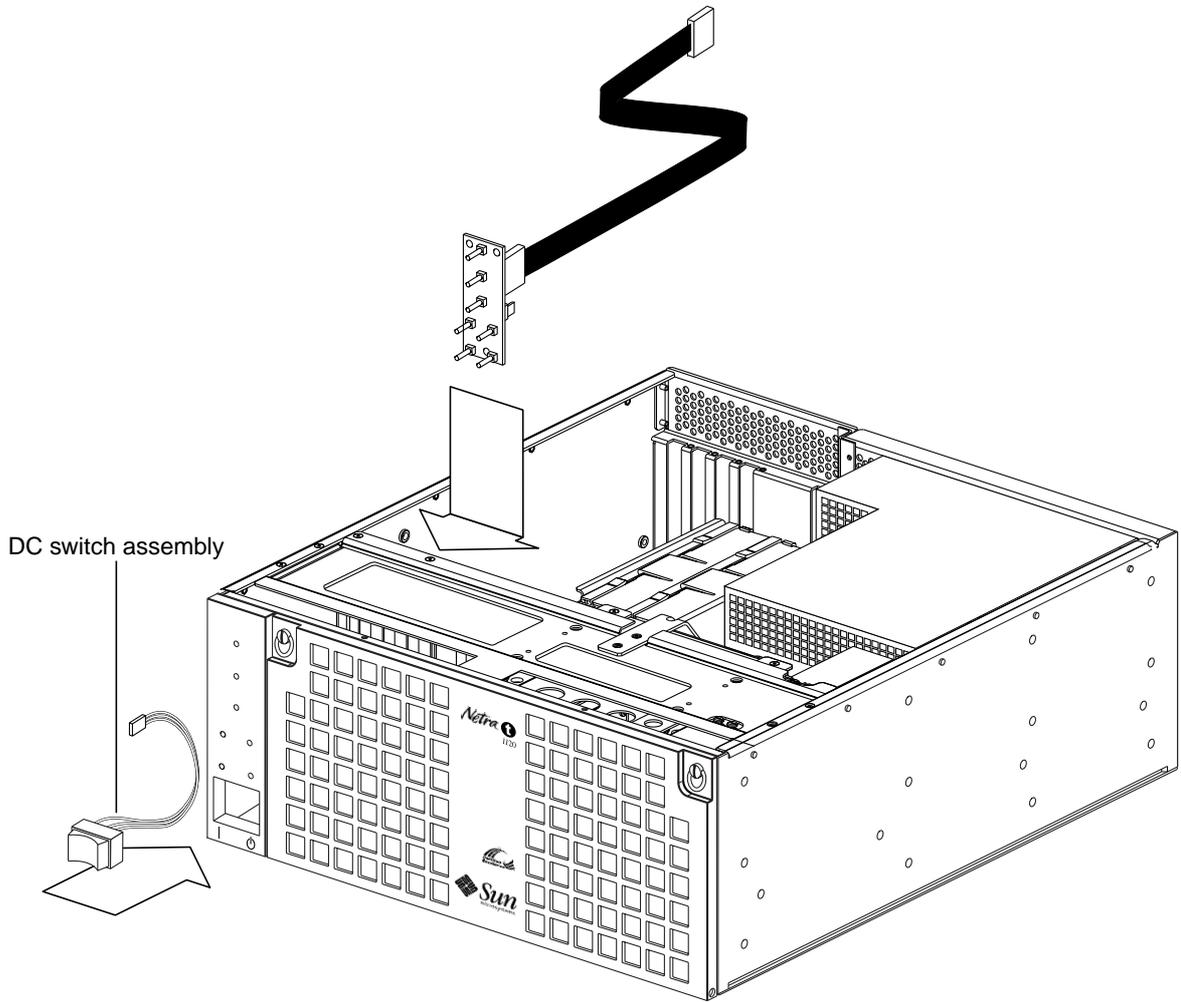

FIGURE 8-4 Removing and Replacing the DC Switch Assembly
- 6. Remove the DC switch assembly from the chassis front. See FIGURE 8-4 on page 8-7.**